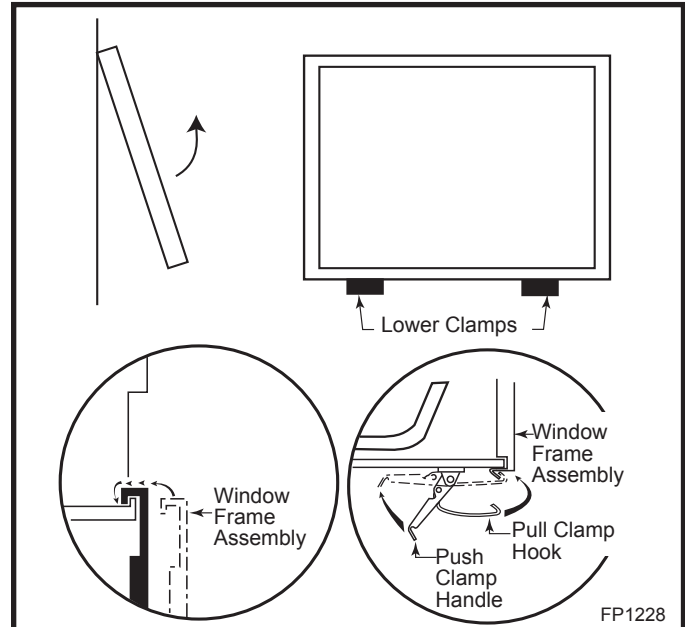

Fig. 42 Window frame assembly removal.
5. Release the two clamps securing the lower edge of the window frame assembly by pulling down on the handles. (Fig. 42)